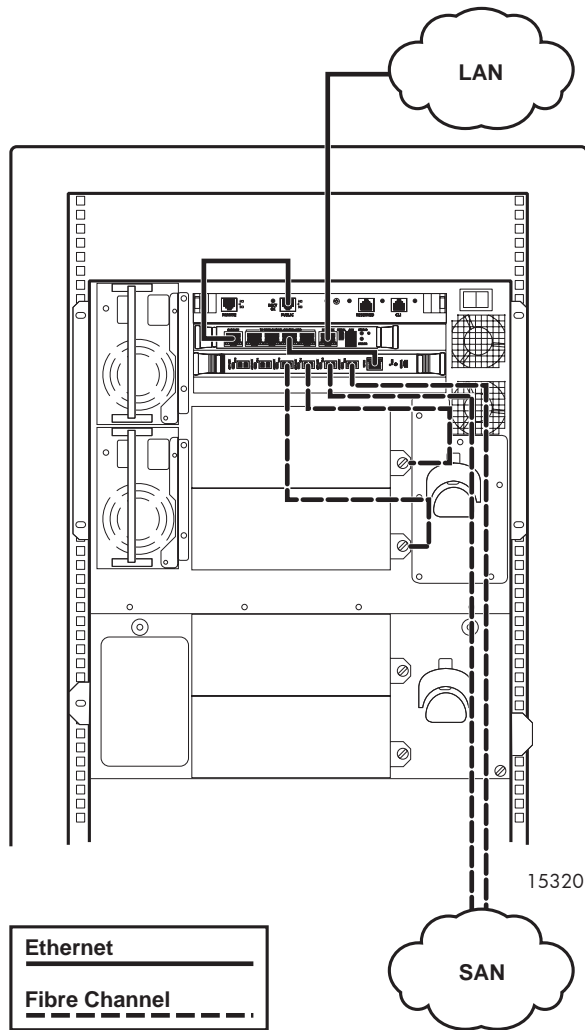

Figure 9 EML cabling
Figure 9 shows the back of an EML 103e library with the robotic controller card at the top, the Interface Manager (IM) card just below, the Interface Controller (IC) card, and the tape drive enclosures at the bottom. The tape drives are connected to the Interface Controller via fiber cable. The top-most drive (drive 0) should be connected to the tape drive 0 (TD 0) port on the IC, with the rest following in sequence. The Ethernet port on the IC is connected to the FC controller ports on the IM card. For better organization, connect each IC to the IM Ethernet ports in sequential order, although this is not required.